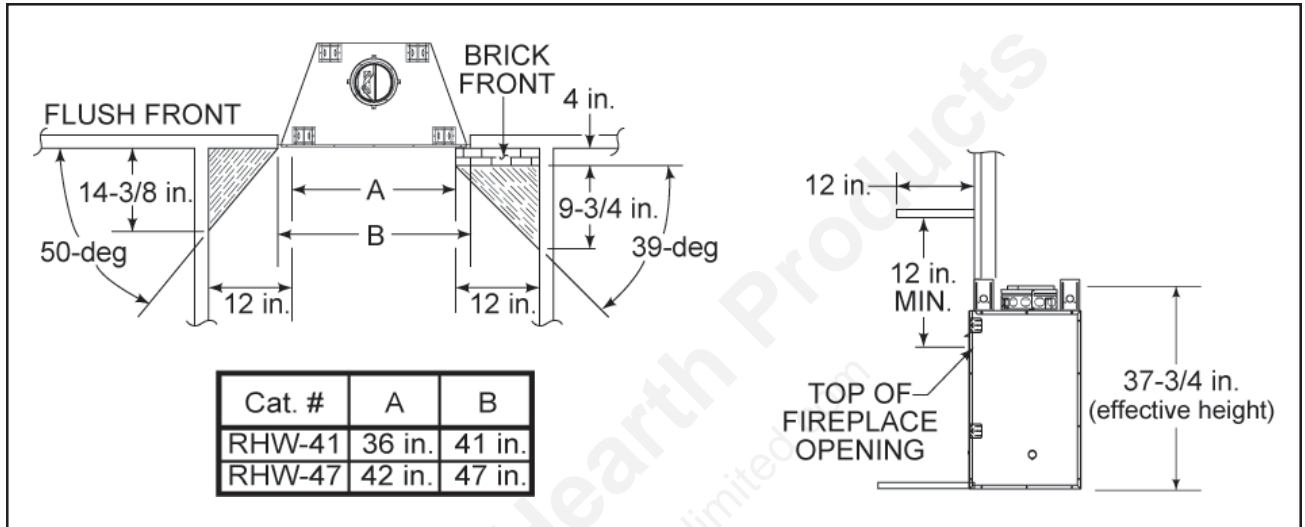

Figure 6 - Sidewalls and Surrounds
Adjacent combustible side walls must be located a minimum of 12 in. from the fireplace opening. See Figure 6. If you are using a decorative surround constructed of combustible material, it must be located within the shaded area defined in Figure 6. Short stub walls are also acceptable if they are contained within the shaded area.
- 6) The effective height of the fireplace assembly is measured from the base of the fireplace to the top of starter collar. See Figure 6.